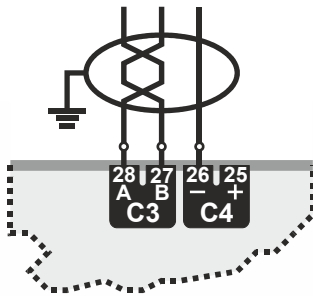

Fig. 12. Modbus Bus of MVC-40M-CMSW1A
- D1 = terminal 27 B (Fig. 12)
- D0 = terminal 28 B (Fig. 12)